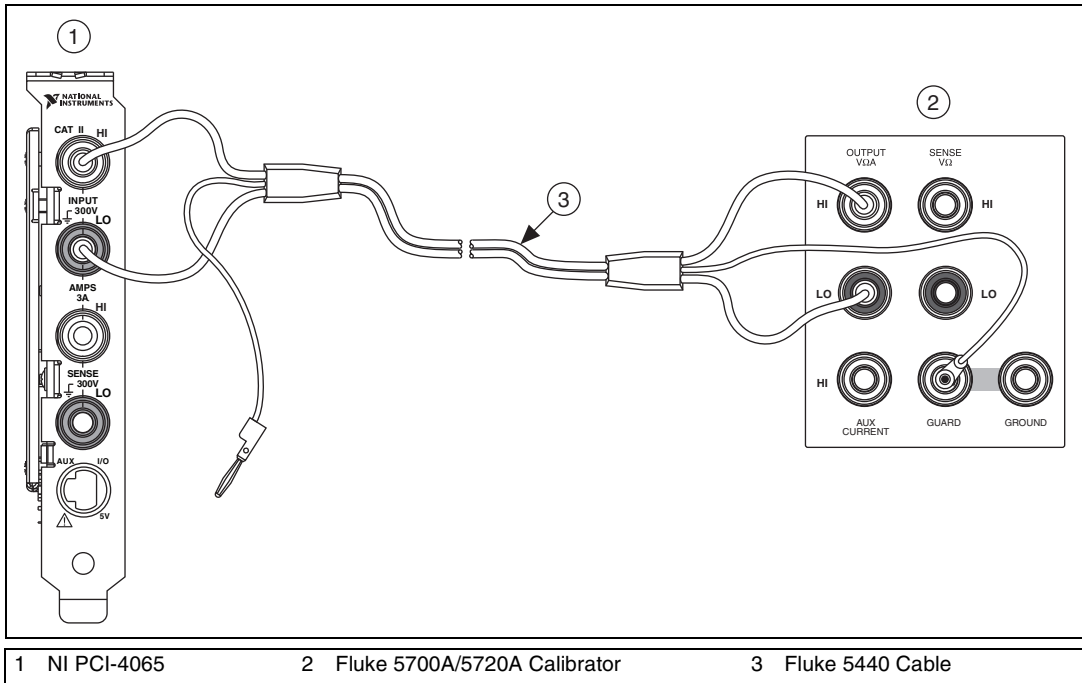
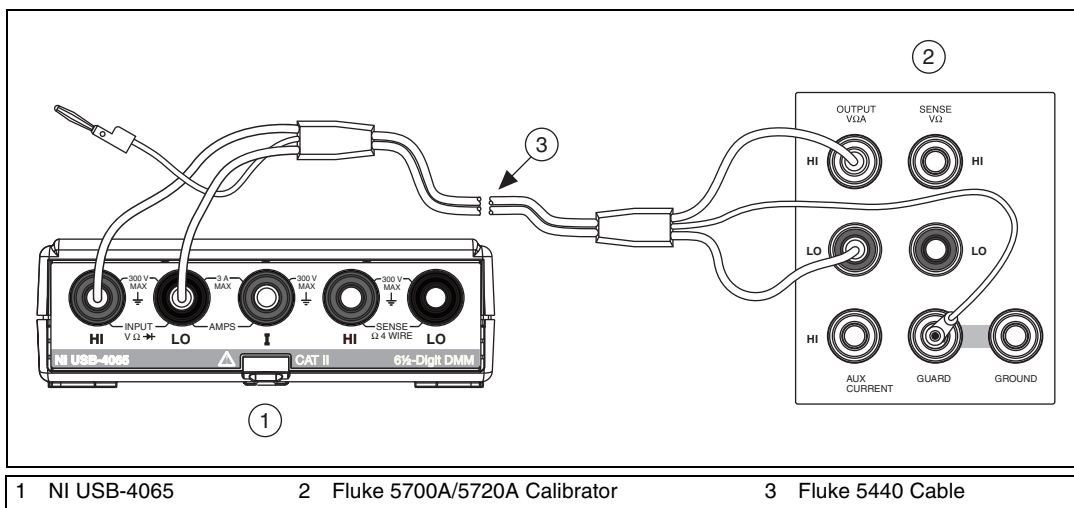

Figure 1. NI PXI/PCI/PCle-4065 Cable Connections for Voltage and 2-Wire Resistance
Figure 2. NI USB-4065 Cable Connections for Voltage and 2-Wire Resistance
2. Connect the NI 4065 and the Fluke 5700A/5720A calibrator using the Fluke 5440 cable, as shown in Figure 1 for NI PXI/PCI/PCle-4065 and Figure 2 for NI USB-4065. Table 2 lists the cable connections.